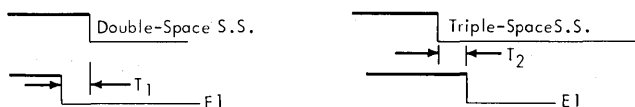

Figure 4-78. E1 Pulse To Singleshot Relationship
8. Adjust the E1 emitter by shifting the emitter arm to provide pulses timed as closely as possible to the time out of the double- and triple-space singleshots (Figure 4-78). Split the difference so that time T1 and time T2 are approximately equal. (Use expanded sweep on the scope.) For actual scope traces, see Figures 1-59 and 1-60.